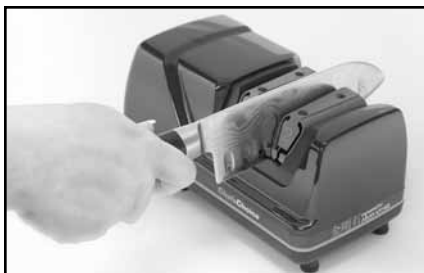

Figure 2. Santoku knife in left slot Stage 2 (double facet Santoku blade).
- a. Pull the blade through the left slot of Stage 2 (see Figure 2) and then through the right slot of Stage 2. Make 2 pairs of pulls, alternating each pull in the left and right slots of Stage 2. You should take about 3 seconds for each pull for a 5 inch (12 cm) long blade.